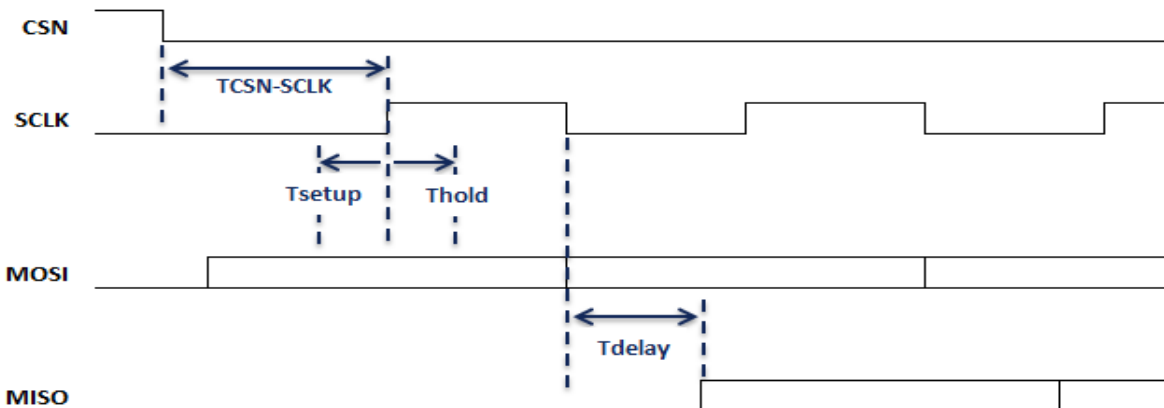

Figure 7: SPI timing diagram
1. Refer to timing diagram in Figure 7.